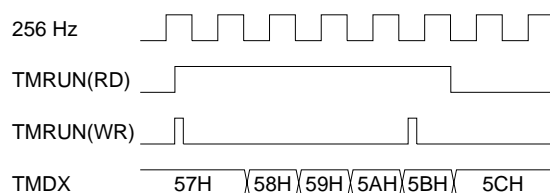

Fig. 5.8.4.1 Timing chart of RUN/STOP control
- (1) The clock timer is actually made to RUN/STOP in synchronization with the falling edge of the 256 Hz signal after writing to the TMRUN register. Consequently, when "0" is written to the TMRUN, the timer shifts to STOP status when the counter is incremented "1". The TMRUN maintains "1" for reading until the timer actually shifts to STOP status. Figure 5.8.4.1 shows the timing chart of the RUN/STOP control.